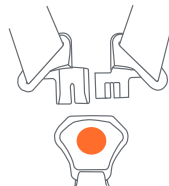
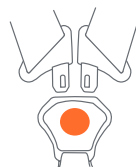

Fig. 38-1
Fig. 38-2
- Type A: Put the two buckle tongues together, overlaying the left buckle tongue onto the right buckle tongue, and insert the two joined buckle tongues into the harness buckle on the crotch strap (Fig. 38-1). Type B: Insert each buckle tongue into the harness buckle (Fig. 38-2).